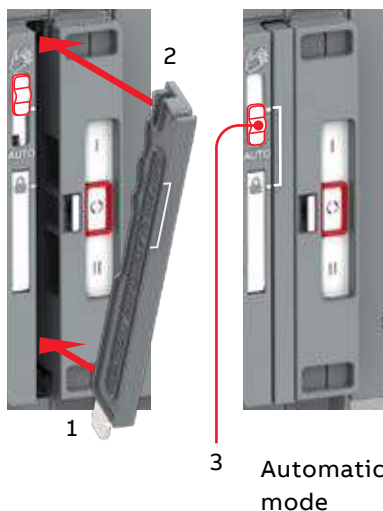

Fig. 3.6 The operating handle must set back to standby slot before moving to the automatic mode
- **Lock-position = Locking mode**, padlocking the automatic transfer switch in a specific position to prevent automatic and manual operation. Remark! The handle has to set standby slot (not in use), after that the slide switch will move to the Locking mode automatically and the switch is allowed to be padlocked. To set the operating handle back to its place, see the left picture in Fig. 3.6.